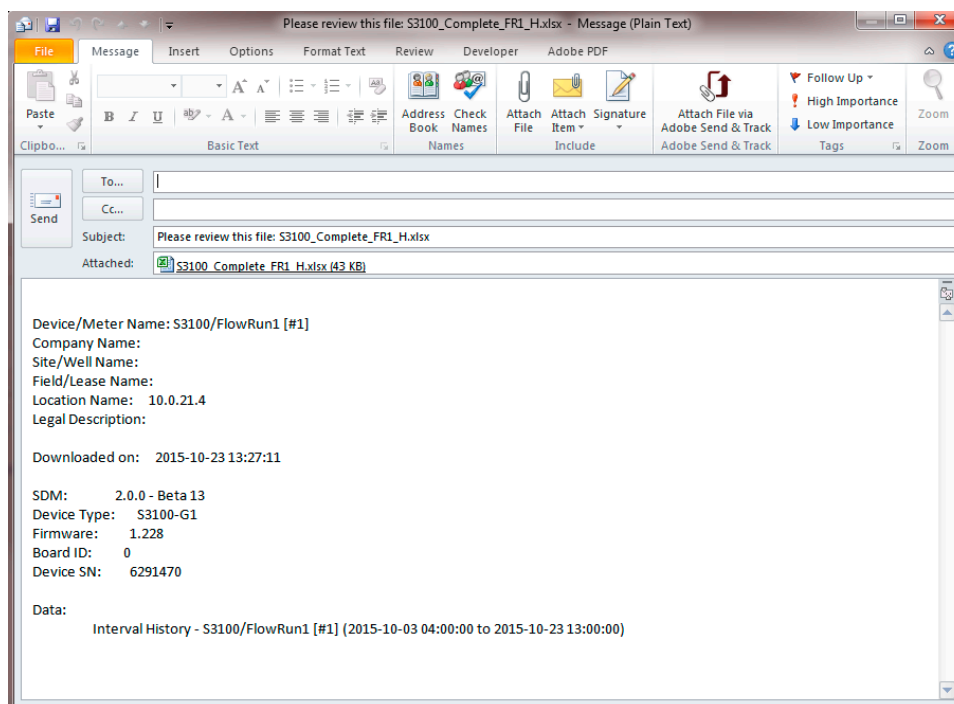

Figure 3.5—Automated email for single log file
- Click **Save** to export the data. Scanner Data Manager will automatically open an email window on your computer, attach the export file, and embed a brief description of the file in the body of the email (Figure 3.5, page 36).